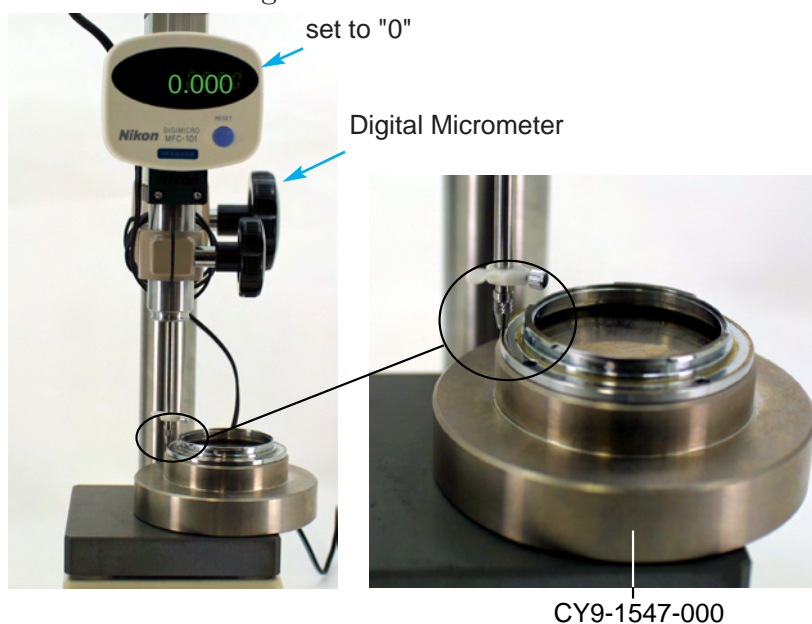

Fig. 3-26
- 2) While directing the output light of the penlight toward the AF sensor unit, look into the lens. Then the AF frame and the BASIS image can be seen as shown in Figure 3-26.